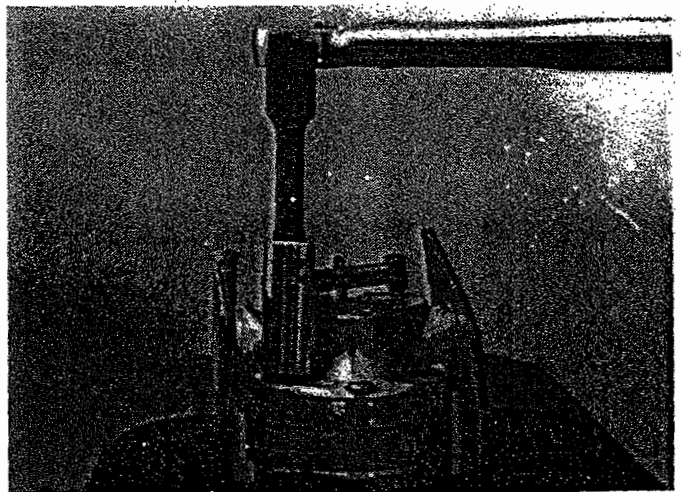

Fig. 4
4. Use 14 mm box-end wrench or socket, loosen and remove hexhead capscrews (Item 16) and washers (Item 15). (Fig. 4)